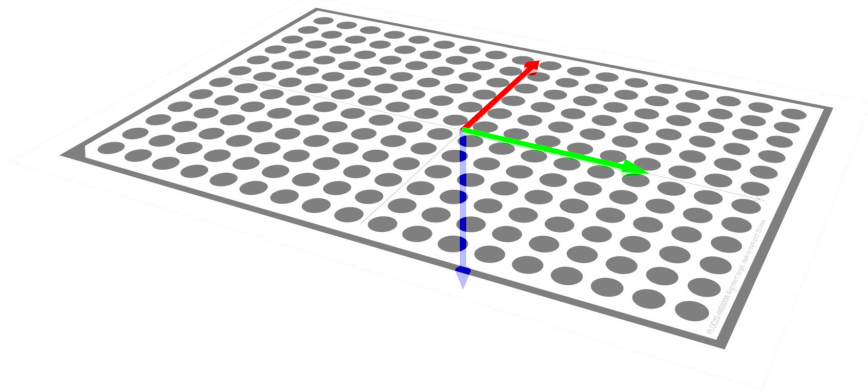

Figure 15: Alignment target frame.
7. Define the robot work frame coordinates by jogging the robot to the alignment target points indicated by the arrows in figure 15.